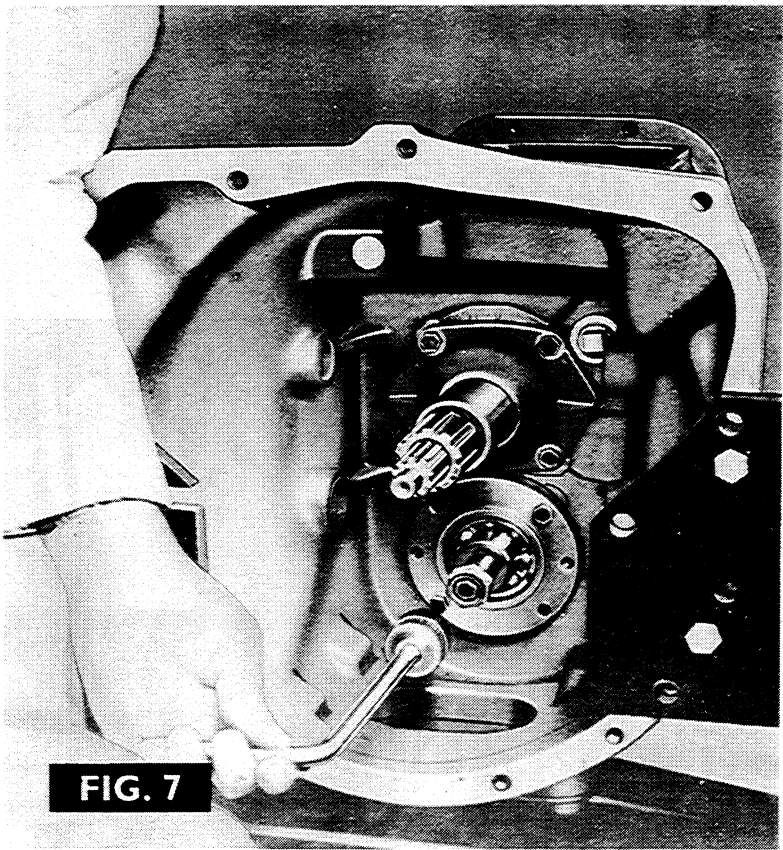

FIG. 7
1. Refit the p.t.o. driveshaft front bearing (60) to its housing (61) and secure it with the circlip (59).
2. Refit the housing (61) together with a new gasket (62) into the transmission case.
3. Fig 7. Pull the p.t.o. driveshaft (65) into its bearing (60) by using special tool MF 218A and adapter MF218-2.